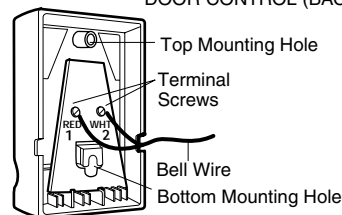

Figure 4 REMOVE COVER
2. Remove white cover by gently pushing both thumbs against upper corners of cover on back side of door control (Figure 4). Fasten with 6ABx1-1/4" self-tapping screws (standard installation) or 6-32x1" machine screws (into gang box) as follows: